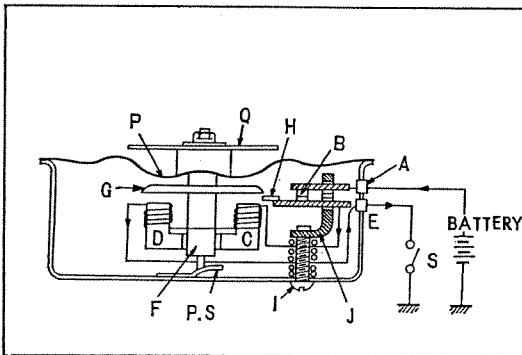

Fig. 5.91 Horn construction
There are three types of electrical diaphragm horns, flat, spiral, and long pipe types. The principle is the same in each horn. In Model CB 125 and CB 160, the spiral type horn is employed. (Refer to Fig. 5.91)
As shown in the figure, if the horn button switch (S) is closed, current is fed from terminal A to contact point B which excites electromagnet C and D and comes out at terminal E. Thus, it draws armature G and depresses insulator H by tripping contact point B and disconnecting at current C and D. Then, axis rod F to which G is installed is pushed up by plate spring P, and S closes again; current is fed.....the operation mentioned above is then repeated. As the result, diaphragm P and resonator Q, which support F vibrate and generate sound. Screw I adjusts volume. By turning the screw I the position of J supporting the contact points is vertically changed; and the distance in which G moves is changed prior to the opening of contact point B. The amplitude of P and Q is changed and the sound volume is controlled (Refer to Fig. 5.91)